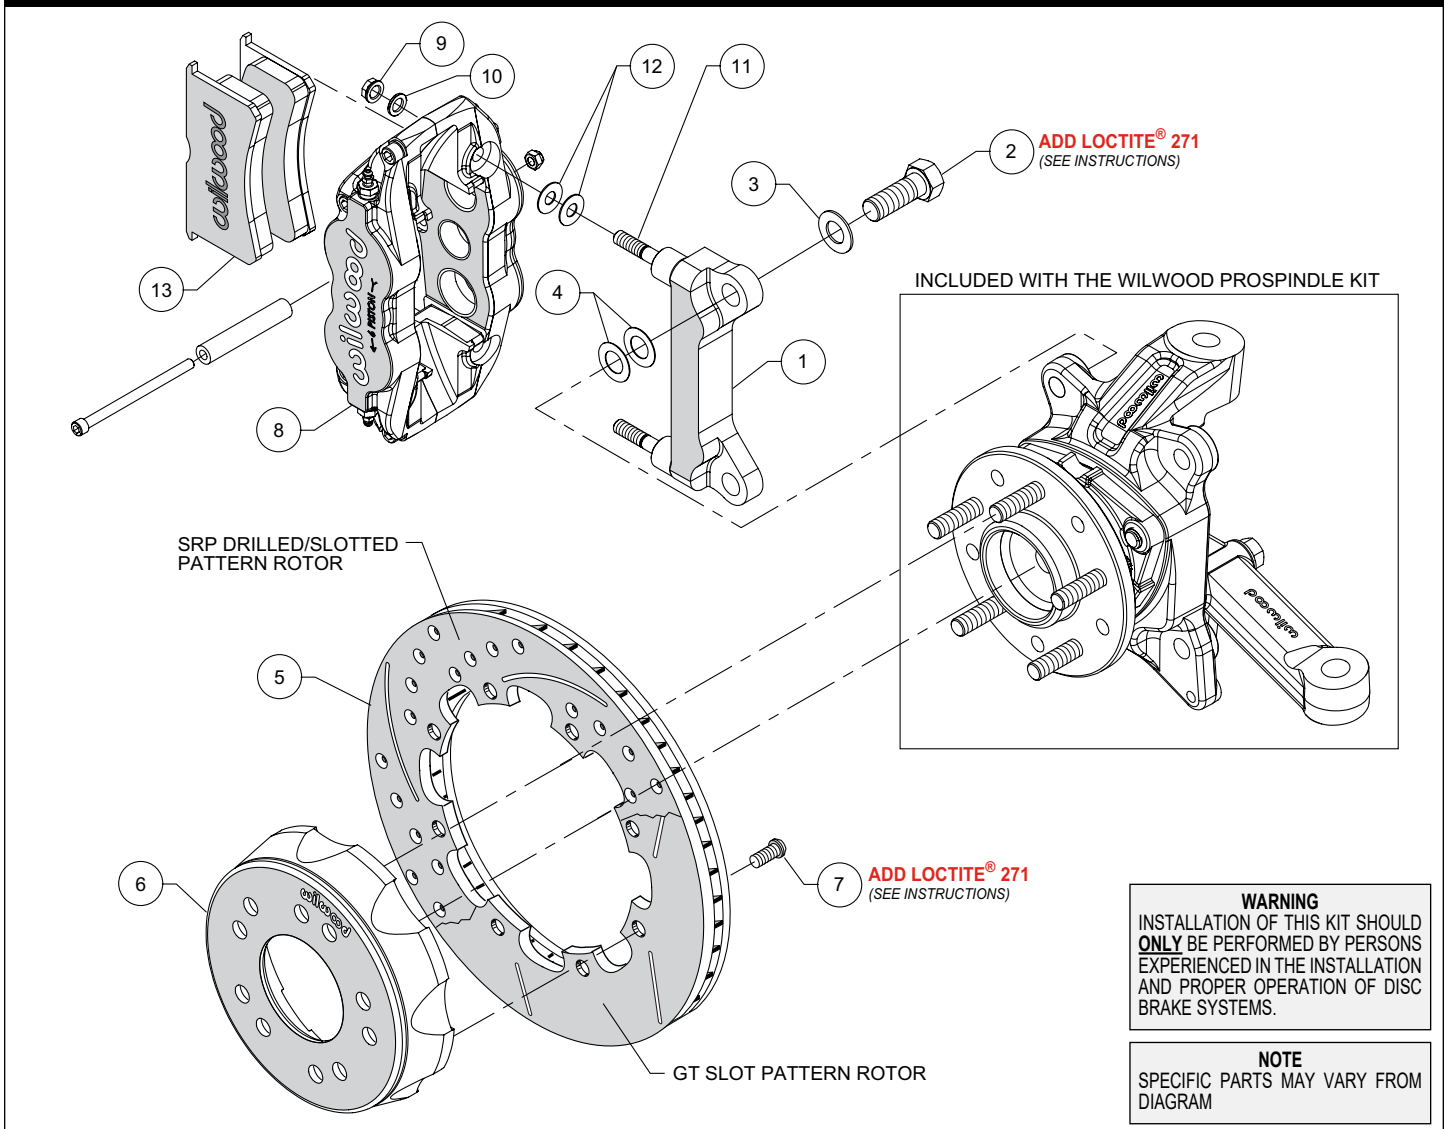

Figure 1. Typical Installation Configuration
Assembly Instructions (numbers in parenthesis refer to the parts list and Figure 1 on the preceding pages):
- The caliper mount bracket (1) should initially be installed with clean, dry threads on the mounting bolts. Orient the bracket as shown in Figure 1 and Photo 1 and install using mount bolts (2) and washers (3). Initially place two .024" thick shims (4) on each bolt between the bracket and spindle, Figure 1. Temporarily tighten the mounting bolts. **NOTE: The bracket must fit squarely against the mounting points on the spindle.** Inspect for interference from casting irregularities, machining ridges, burrs, etc. Later, after the caliper alignment has been checked, the mount bolts will be secured using red Loctite® 271.
- Orient the rotor (5) and the hat (6) as shown in Figure 1 and Photo 2. Attach rotor to hat using bolts (7). Using an alternating sequence, apply red *Loctite*® 271 to the threads, and torque to 25 ft-lbs.
- **NOTE:** This kit contains distinct right and left hand calipers that must be mounted in a specific direction, as described below. Initially place two .035" thick shims (12) on each stud (11) as shown in Figure 1 and Photo 5. Mount the caliper (8) onto the bracket (1) using lock nuts (9) and washers (10), Figure 1. Temporarily tighten the lock nuts. Ensure that the caliper is mounted so that the largest pistons are at the rotor exit end of the caliper, in relation to the direction of rotor rotation. View the rotor through the top opening of the caliper. The rotor should be centered in the caliper, Photo 6. If not, adjust by adding or subtracting shims (4) between the bracket and the spindle. Always use the same amount of shims on each of the two mounting bolts. Once the caliper alignment is correct, remove the bracket mounting bolts one at a time, apply red *Loctite*® 271 to the threads, and torque to 140 ft-lb.